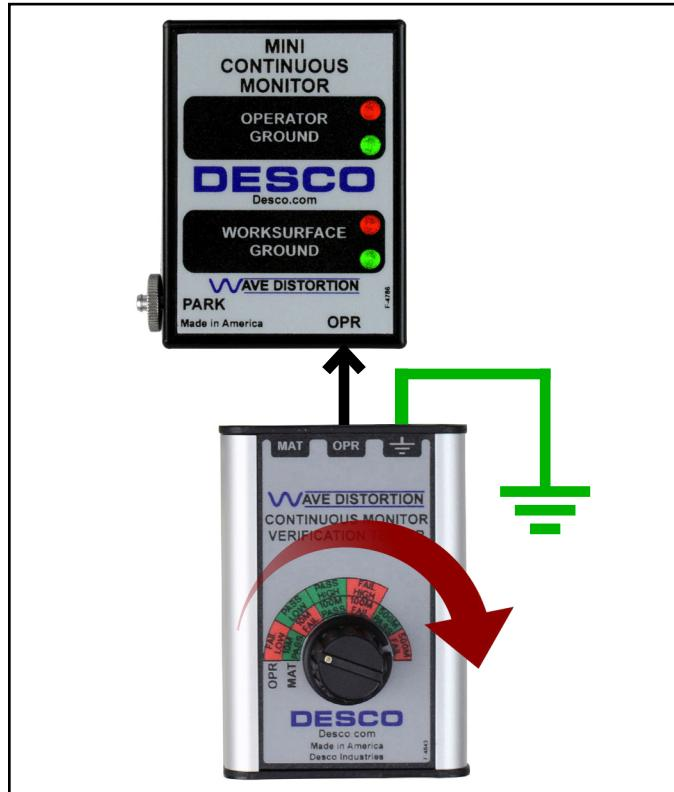

Figure 3. Connecting the Wave Distortion Monitor Verification Tester to the Mini Monitor's operator jack
1. Connect the Wave Distortion Monitor Verification Tester's green ground lead to equipment ground. This may be done using the included Ground Plug Adapter or alligator clip. See Figure 3.